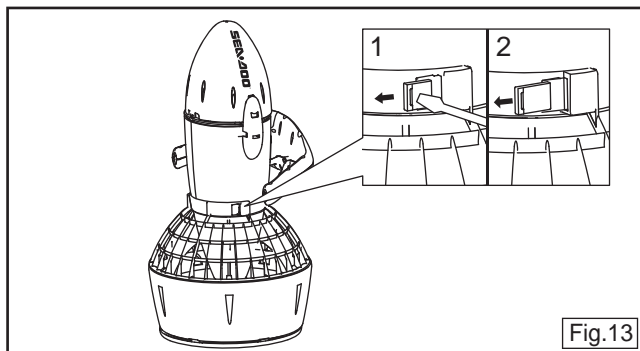

Fig.13
3. Insert a screw driver as shown in figure 13 (page 21) to remove the two grille pins.